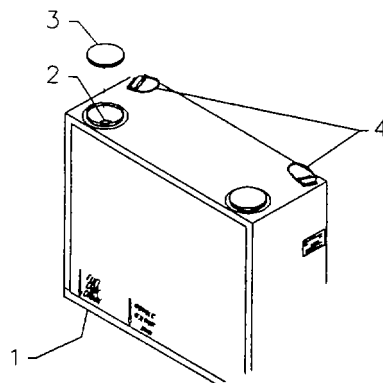

Figure 4-7. Fuel Tank Service.
a. Draining. Refer to figure 4-7.
- 1) Connect suitable sling to lifting rings (4) to raise and block the hydraulic power supply enough to place waste container underneath
- 2) Place suitable waste container under drain plug (1). Capacity of fuel tank is 10 gallons.
- 3) Remove drain plug (1) allowing fuel to drain in to the container. Install drain plug (1) when all the fuel has drained.
b. Refilling. Refer to figure 4-7.
- 1) Remove rain cap (3). Remove fuel cap (2) and fill with proper fuel